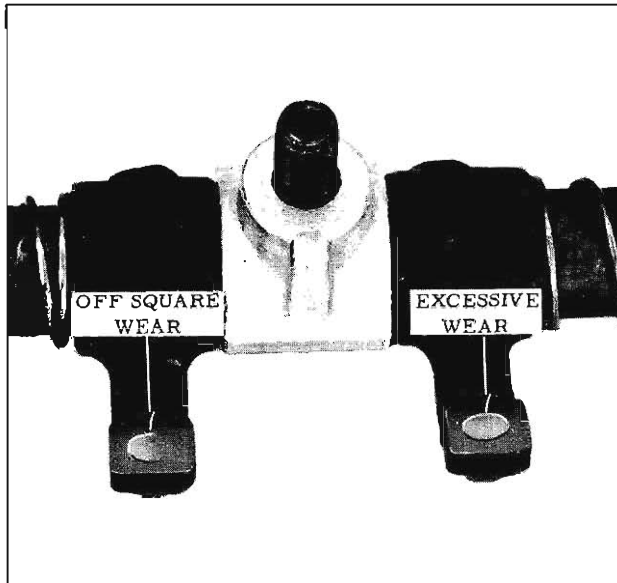

Fig. 3-413 Rocker Arm Wear
- b. Observe rocker arm pad for excessive wear or excessive off square. Replace as required. (Fig. 3-413)